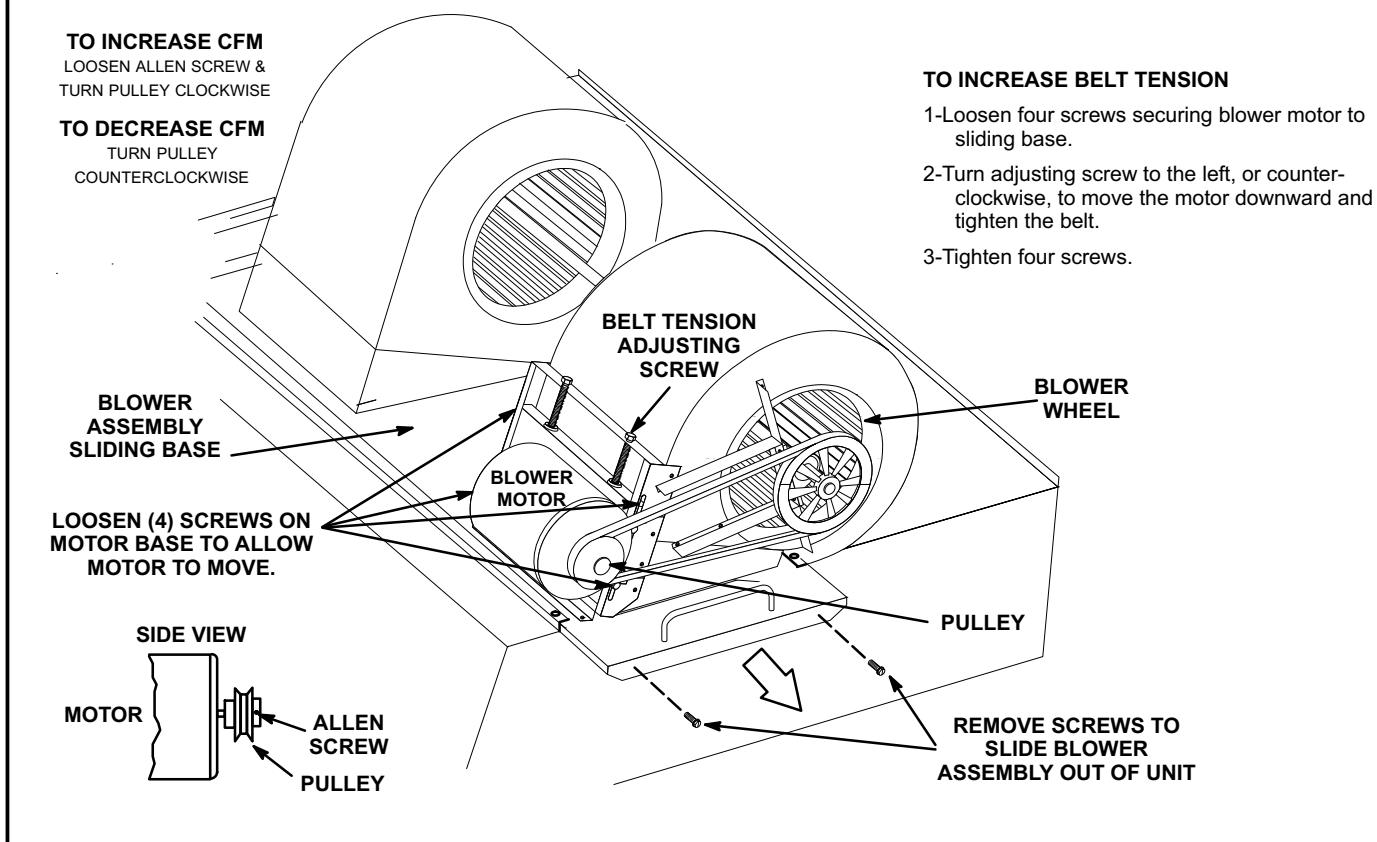

FIGURE 11
The blower compartment in TGA180/300 units is located between the evaporator coil and the compressor / control section on the opposite side of the condenser coil. The blower assembly is accessed by removing the screws on either side of the sliding base. The base pulls out as shown in figure 11.
The blower assembly is secured to a sliding base which allows the entire assembly to be pulled out of the unit. See figure 11.
- 5- The RPM can be adjusted at the motor pulley. Loosen Allen screw and turn adjustable pulley clockwise to increase RPM. Turn counterclockwise to decrease RPM. See figure 11 for TGA180/300 units.
- 1- Loosen four bolts securing motor base to mounting frame. See figure 11.